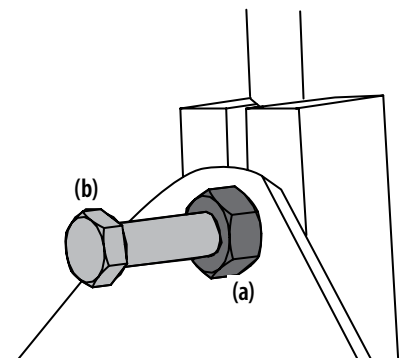

Figure 5-16
1. Locate the parking brake adjustment nut near the engine. See Figure 5-16.
2. Loosen the lock nut (a) and then tighten the bolt (b) to adjust the parking brake. Turn the bolt until it touches, then back it off a 1/4-turn. See Figure 5-16.